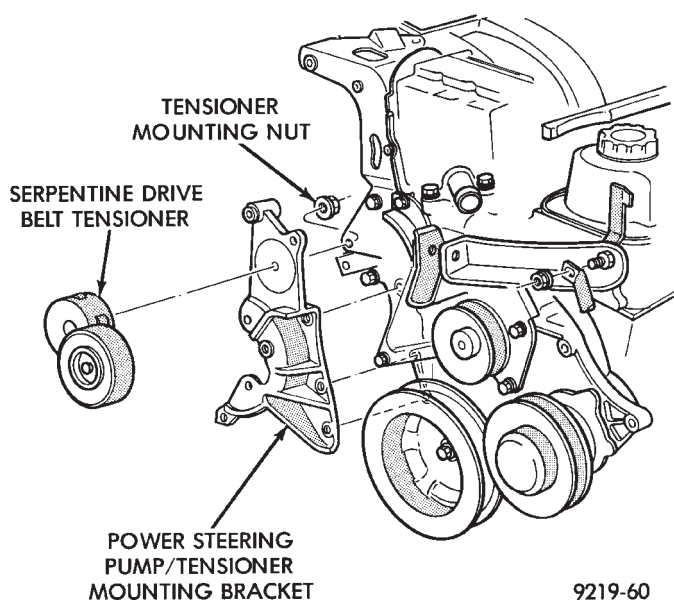

Fig. 13 Serpentine Belt Tensioner
(9) Remove nut which holds serpentine drive belt tensioner to its mounting bracket (Fig. 13). Remove tensioner assembly from bracket.
(4) Temporarily install the serpentine belt tensioner bolt through both alternator brackets. This will align all alternator bracket mounting holes (Fig. 13). Then torque the 4 alternator bracket to engine and intake manifold mounting bolts to 54 N•m (40 ft. lbs.). Then remove the serpentine belt tensioner from bracket. **It will be installed on the bracket in a later step.**
(11) Install the serpentine drive belt tensioner onto the power steering/alternator bracket (Fig. 13). Install the tensioner to bracket retaining nut and torque to 54 N•m (40 ft. lbs.).